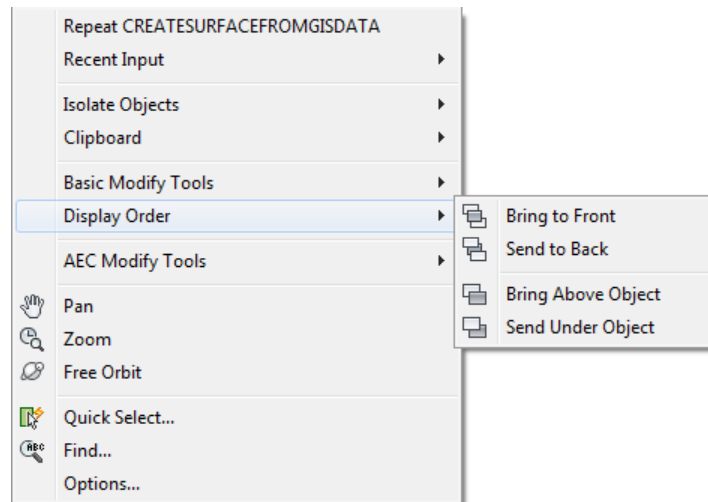

Figure 3-76 The flyout showing the *Display Order* options
6. To make the surface visible in the drawing, select the image and right-click; a shortcut menu is displayed. From the shortcut menu, choose the **Display Order** option; a flyout is displayed, as shown in Figure 3-76.